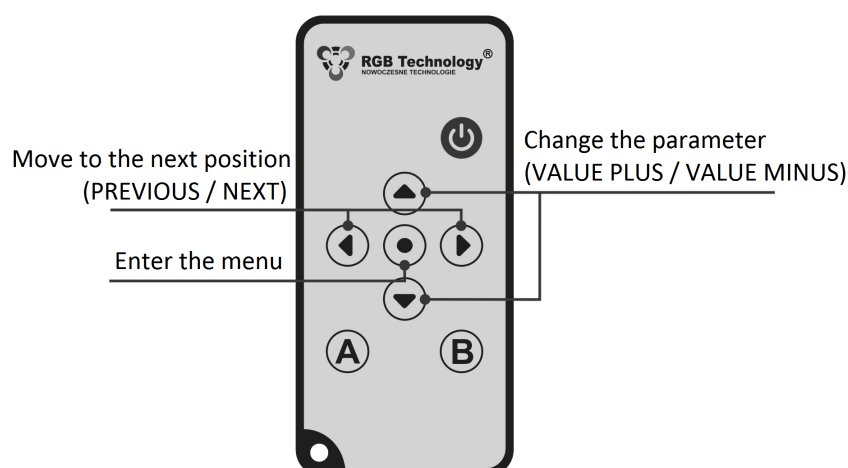

Fig. 2 Remote control
**Fig. 2** shows the remote control, along with the explanation of the function of each button. You enter the user menu using the **MENU** button. You navigate and modify the respective parameters using the buttons **↑**, **↓**, **←** and **→**.